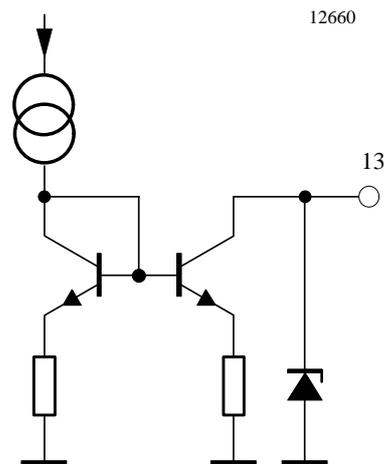

Figure 13. Pin 13 SWout
- 2) Measured at Pin 9, (12) referred to 330  $\Omega$
- 3) Protected by a Z-diode, see figure 13